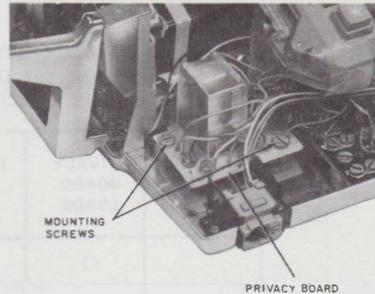

Fig. 35—Privacy Circuit Board Mounted in Telephone
- (1) Remove faceplate from telephone set.
- (2) Mount privacy circuit board on the two standoffs located at the left front of the telephone set base (Fig. 35).
- (3) Fasten circuit board to standoffs using mounting screws furnished with the telephone set.
- (4) Connect leads according to Table E.
- (5) Make sure all connections are tight and terminals are not crossed or shorted. Close telephone set.
- (6) Test the operation of the privacy circuit in the following manner: